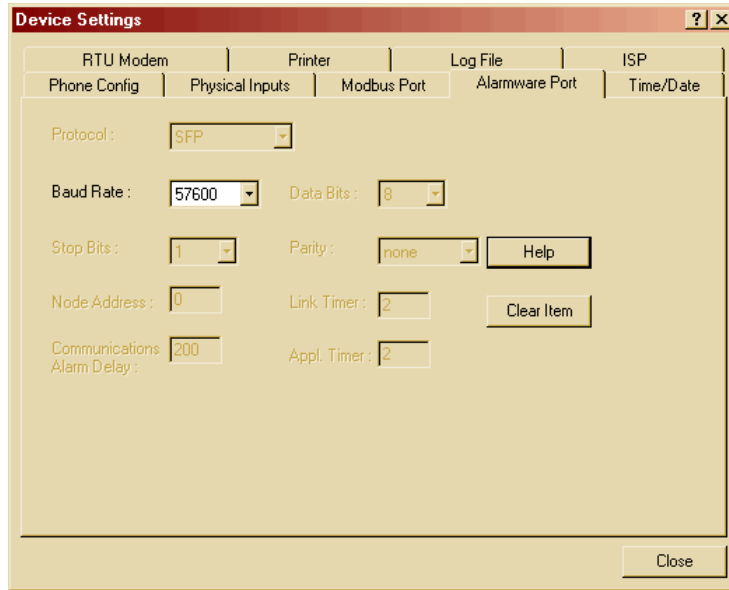

Figure 15: Device Settings, Alarmware Port
12. Then select the **Alarmware Port** tab and make sure it is configured as shown in Figure 15.